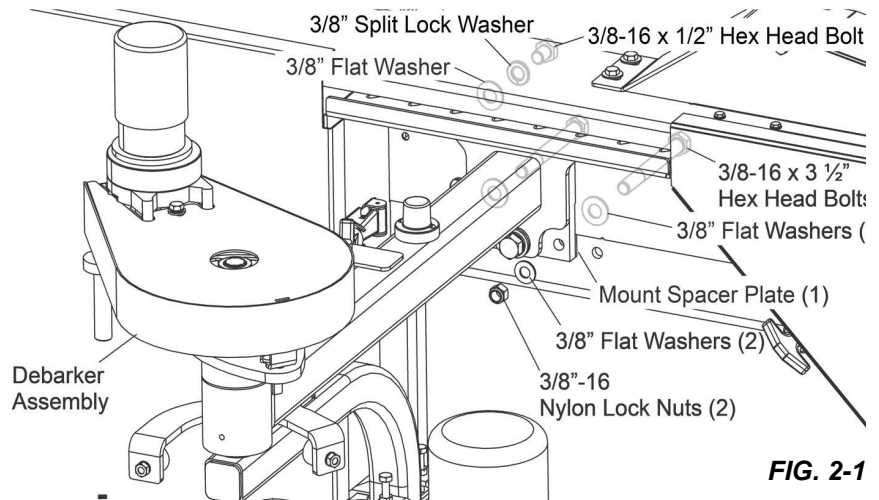

FIG. 2-1
1. Assemble the debarker assembly to the sawmill saw head. **See Fig. 2-1.**